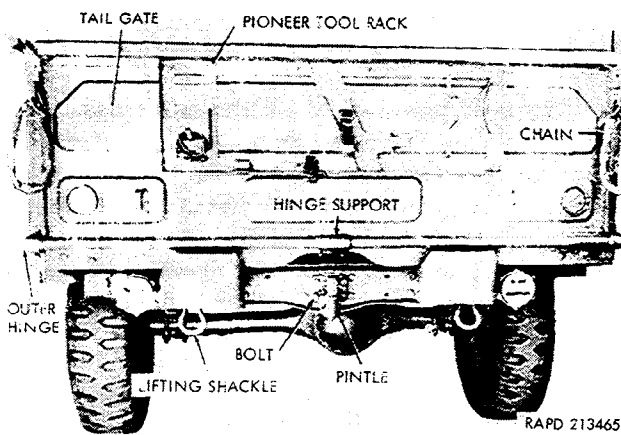
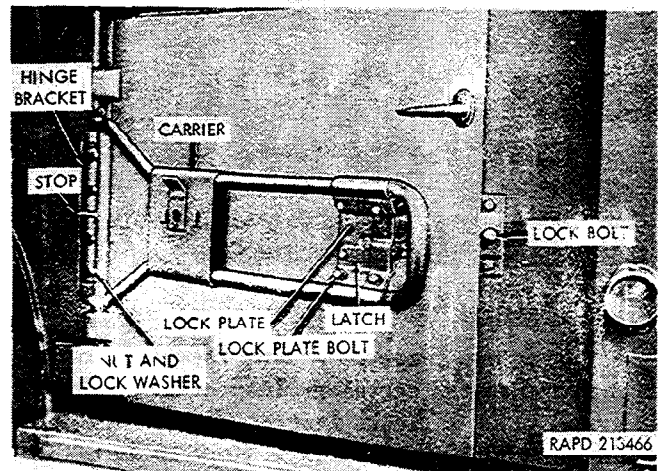
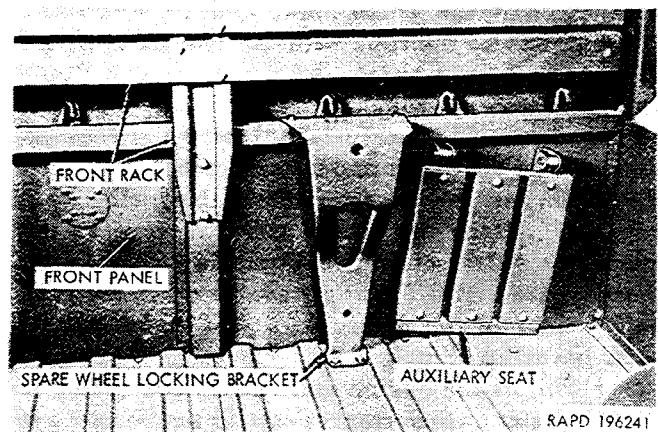
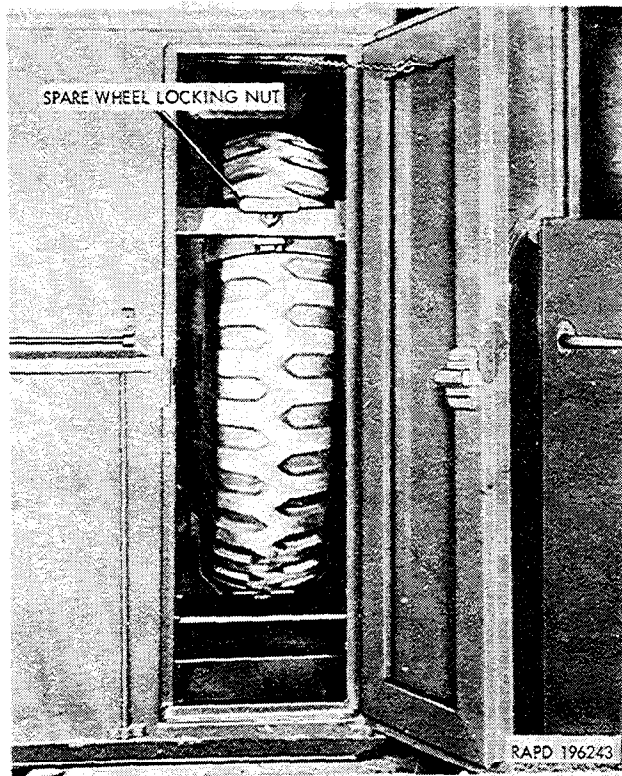

Figure 2-173. Tailgate, pintle, and lifting shackles.
Figure 2-174. Spare wheel carrier (ambulance truck M43).
Figure 2-175. Front body panel and related parts (cargo truck M37).
Figure 2-176. Spare wheel storage compartment
A pintle (fig. 2-173) is mounted on the frame rear crossmember of all models except the ambulance truck M43. All vehicles are equipped with four lifting shackles, two at the front and two at the rear. The hinged type wheel carrier (fig. 2-174) is mounted at the left side of the ambulance truck M43. The spare wheel for the cargo truck M37 is carried on a bracket at the front body panel (fig. 2-175), and for the telephone maintenance truck M201 it is stowed in a compartment in the body (fig. 2-176).
(1) Remove the cotter pin, slotted nut, and plain washer from the front end of the pintle adapter, and remove the pintle and adapter.
(2) Remove the four nuts, lockwashers, and bolts (fig. 2-173) that secure the pintle to the adapter, and remove the adapter.
(3) Inspect the lubrication fitting in the adapter flange. If the fitting is damaged, remove it.
(1) Remove the spare wheel locking nut, and remove the spare wheel.
(2) Remove the four nuts and lockwashers (fig. 2-174) that secure the carrier hinge bracket on the bolts through the cowl left pillar.
(3) Disengage the lock from the lock bolt, and remove the spare wheel carrier.
(1) Position the spare wheel carrier hinge bracket on the four bolts in the cowl left pillar and engage the carrier lock with the lock bolt.
(2) Install a lockwasher and nut on each of the four bolts. Tighten the nuts.
(3) Operate the spare wheel carrier to check the alinement of the lock plate and lock bolt. If the hole in the lock plate does not aline with the lock bolts, loosen the four lock plate bolts (fig. 2-174); move the plate forward or back as required, and tighten bolts. (The bolt holes are elongated to provide for the adjustment.)